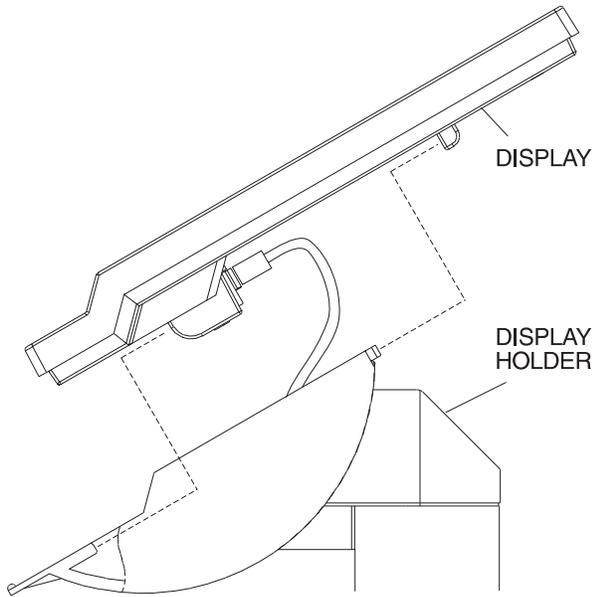

Figure 3-24. Touch Display Removal From Holder
- 3 Remove the touch display from the display holder. See Figure 3-24 on page 3-21.